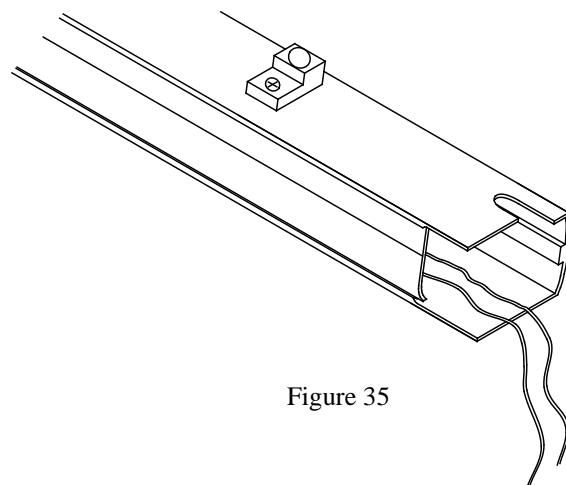

Figure 35
7. On fixed sidelights, the magnet is installed inside the top rail of the door. Place a steel washer on the interior side of the rail to confirm it is installed. The magnetic reed switch is installed about eye level in the leading stile of the sidelight facing towards the door. (See Figure 35)